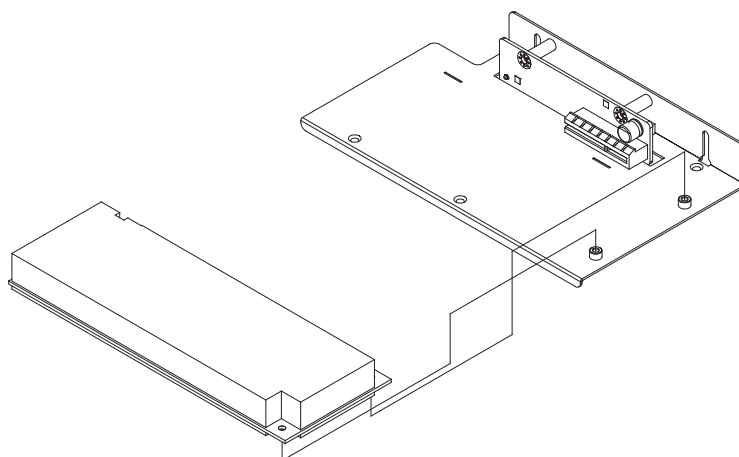

Figure 2.12 IR Module Assembly-2/IR 模块安装 -2/IR 模組安裝 -2
- b. Assembly the PCIe card with IR riser module via 2 screws that has been removed in previous step (see Figure 2.12).
- b. 使用前一步骤移除的 2 颗螺丝将 PCIe 扩充卡锁固在 IR 模块支架上（如图 2.12 所示）。